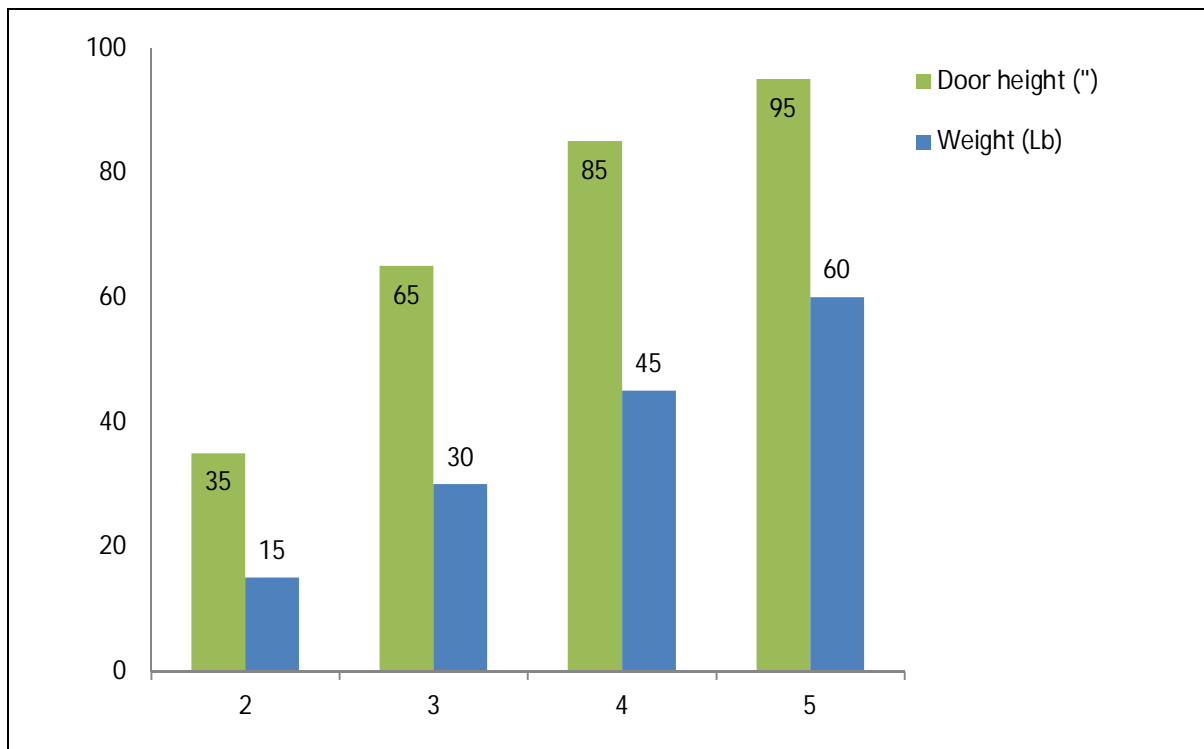

FIGURE 2 – HINGES PER DOOR IN RELATION TO DOOR HEIGHT AND WEIGHT
The number of hinges per door is defined by the height and weight of the finished door as shown in Figure 2. For most application, and as a general rule, two (2) hinges will be needed with exception for the large doors on wardrobes where three (3) hinges are required.